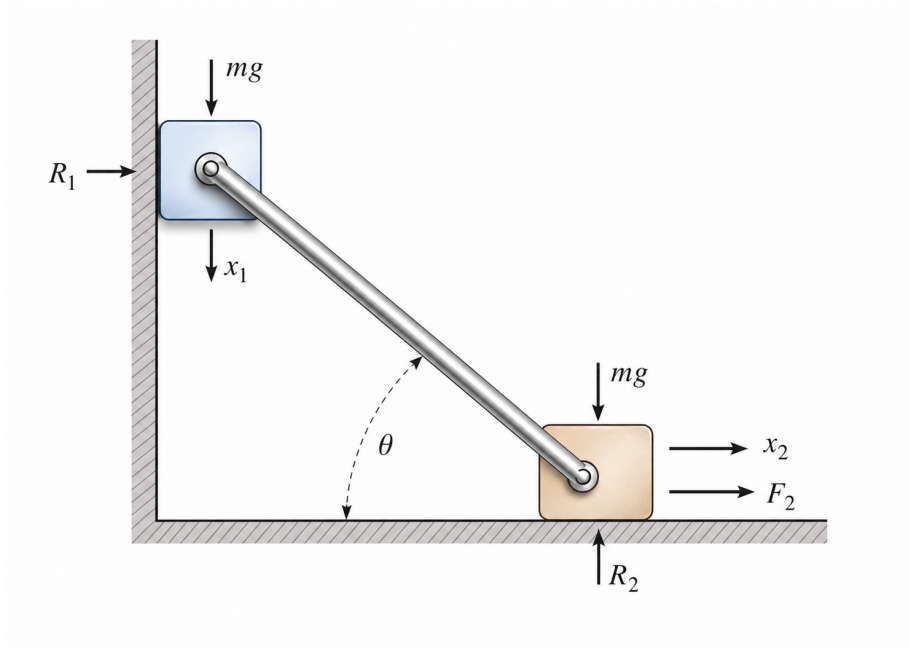

Figure 2: Taken from “Classical Dynamics” by D. T. Greenwood, pp. 19 – 20.
- In Fig. 2, the applied forces are the gravitational forces acting on the blocks and the external force F_2 . Calculate the force required $F_2(\theta)$ to keep the initially motionless system in static equilibrium.